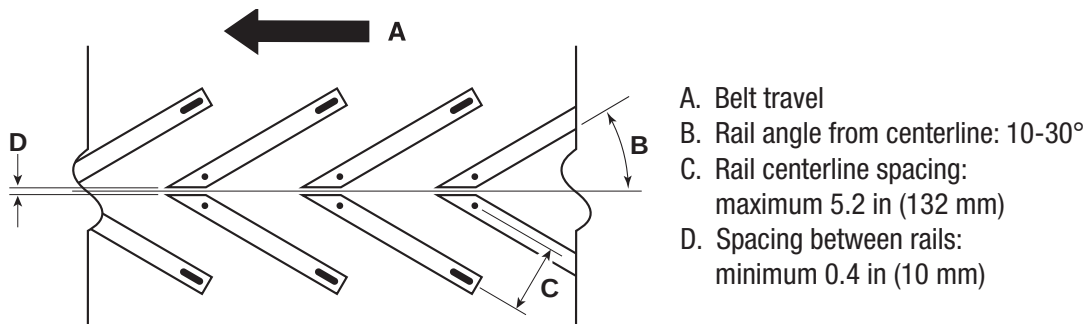

Figure 26
Support rails and wearstrips can be installed in a chevron pattern for certain applications and retrofit projects (Figure 26). Placing rails in this overlapping V pattern fully supports the width of the belt as it moves along the carryway. The angled surfaces can also help remove gritty or abrasive material from the belt bottom. Use the following guidelines with the general support rail guidelines to design a chevron carryway.
- Design a maximum 5.2 in (132 mm) centerline spacing between rails (Figure 26, C).
- Maintain a minimum 0.4 in (10 mm) spacing between rails at the chevron center to reduce debris buildup (Figure 26, D).